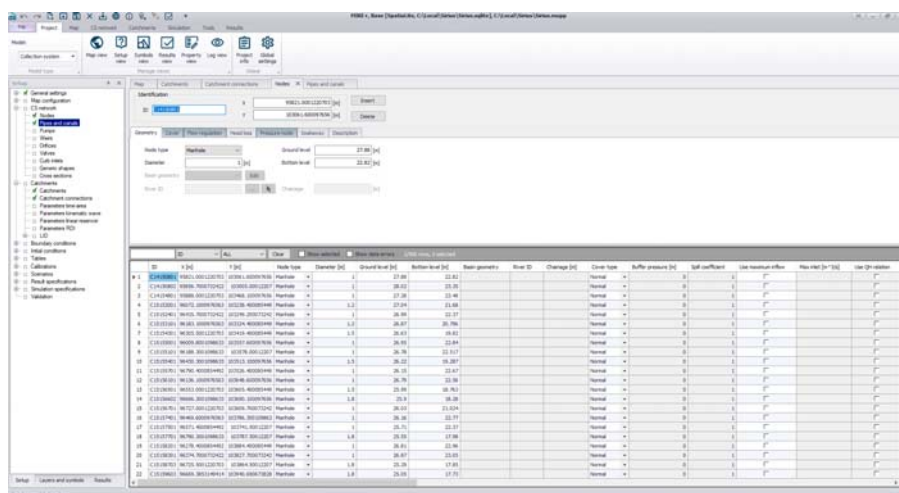

Figure 2.6 MIKE+ user interface with all editors "docked"
- "Docked" editors are displayed one at a time, or side-by-side. Any editor can be brought to the front by clicking on its tab. This is shown in Figure 2.6 below.
Figure 2.6 shows the MIKE+ user interface with all editors "docked". In this case only the active editor is visible.